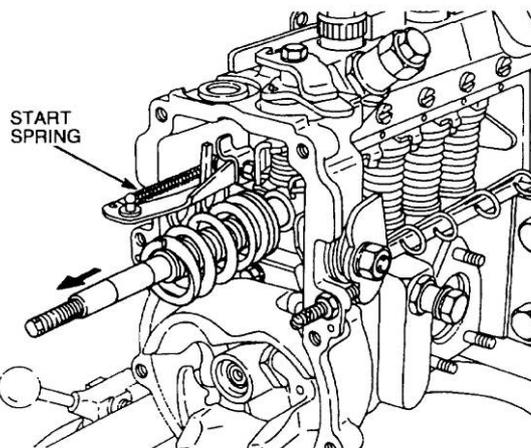

Figure 90 Removing the Governor Shaft and Start Spring
- m.** Remove the governor shaft, complete with springs and spring seat, from the housing (Figure 90). With a pair of long-nose pliers, disconnect the start spring from the rack connecting link.